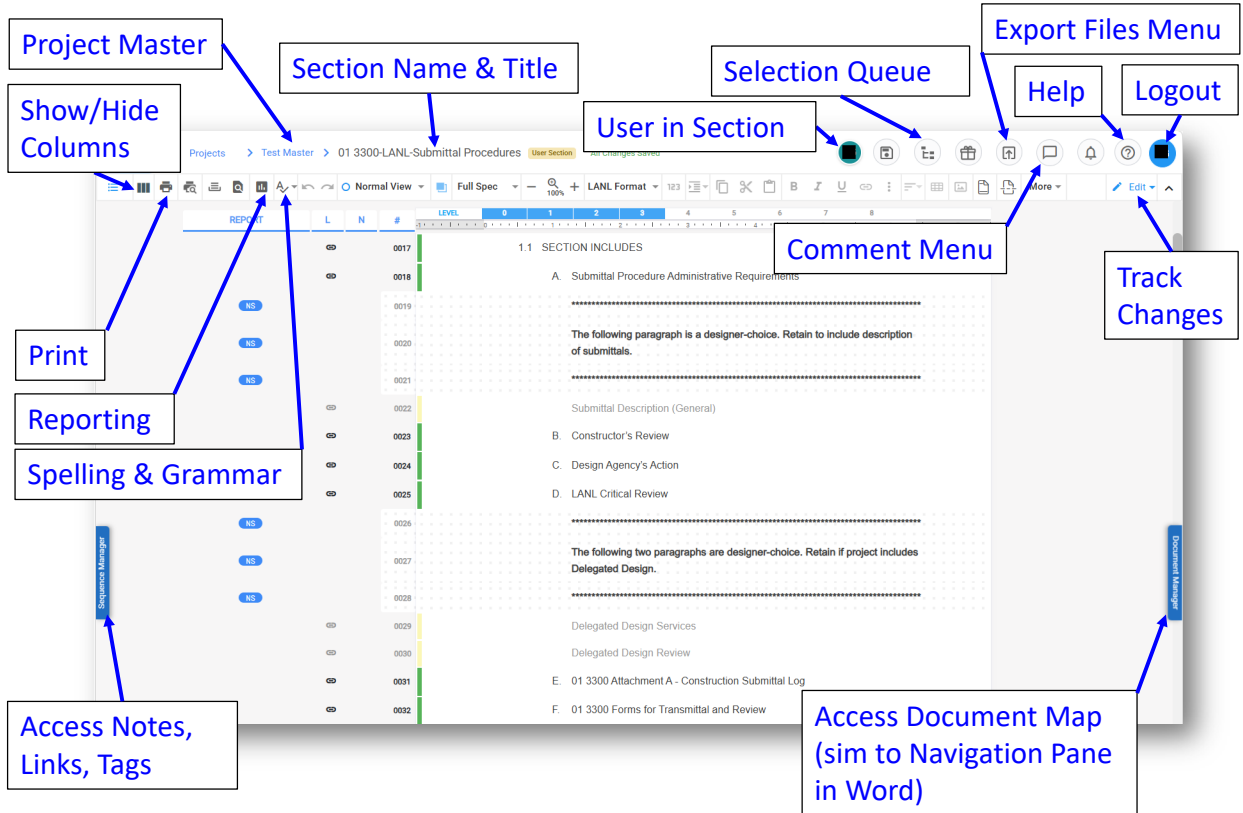

Figure 2: SpecLink Cloud Interface in a Specification Section
7.1 Figure 2 graphically shows the SpecLink Cloud interface/layout of an active specification section window in SpecLink.